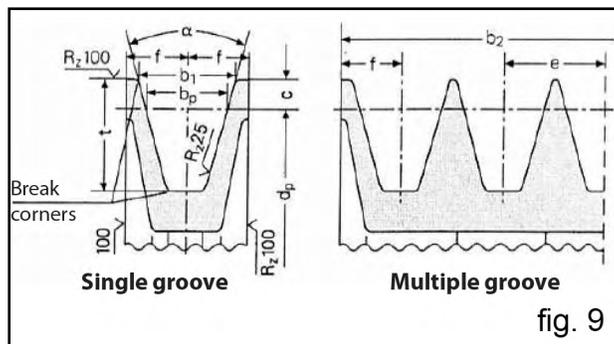

fig. 9
A) Use pulleys with V-belts with the size of the groove required/recommended by the manufacture of belt used. In the absence of directions, follow fig. 9 and the table in fig. 10.